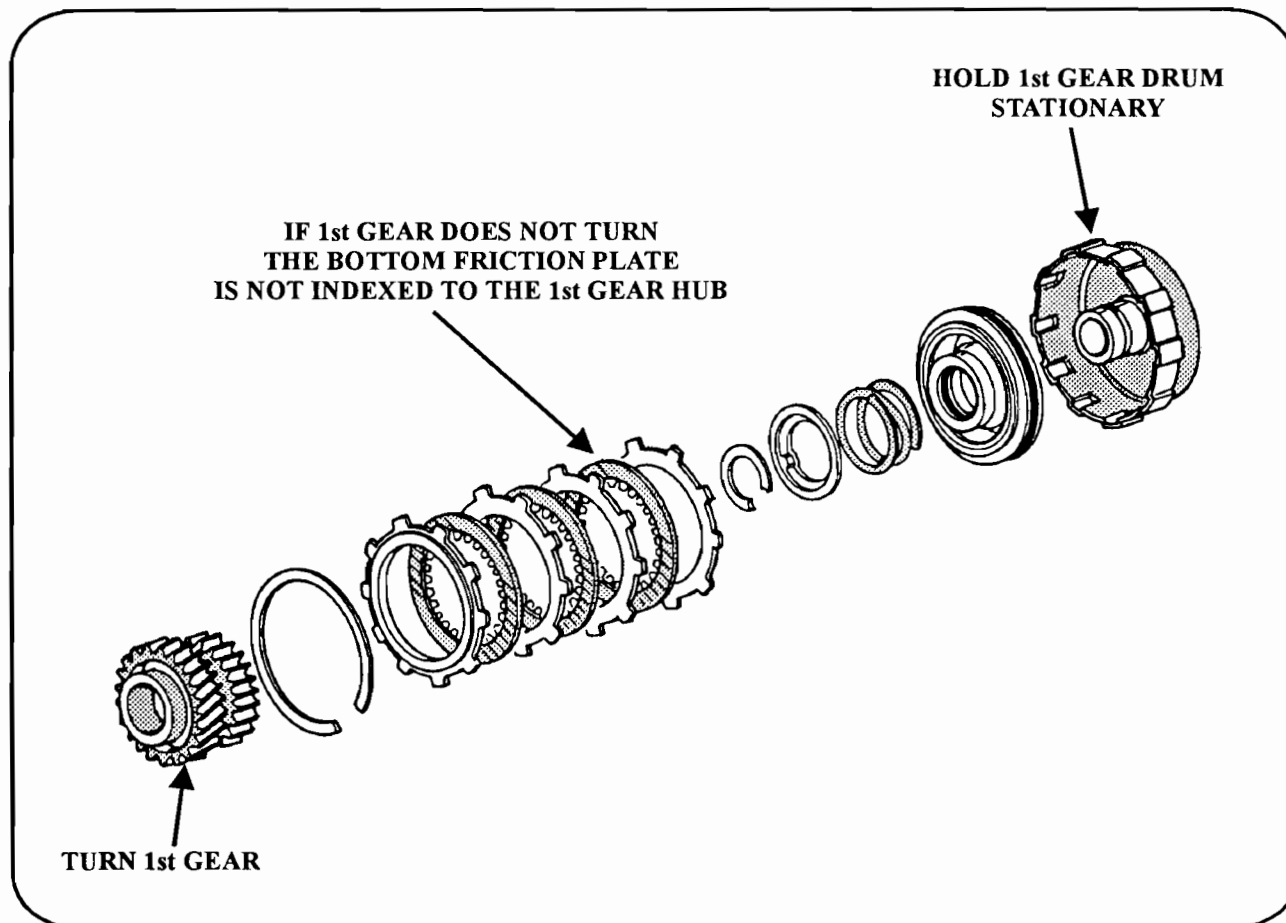

Figure 24
**CORRECTION:** Make certain all three clutches have splined to the first gear hub. After tightening the mainshaft nut, make certain you can turn the clutch drum while holding the first gear hub. (Refer to Figure 24)